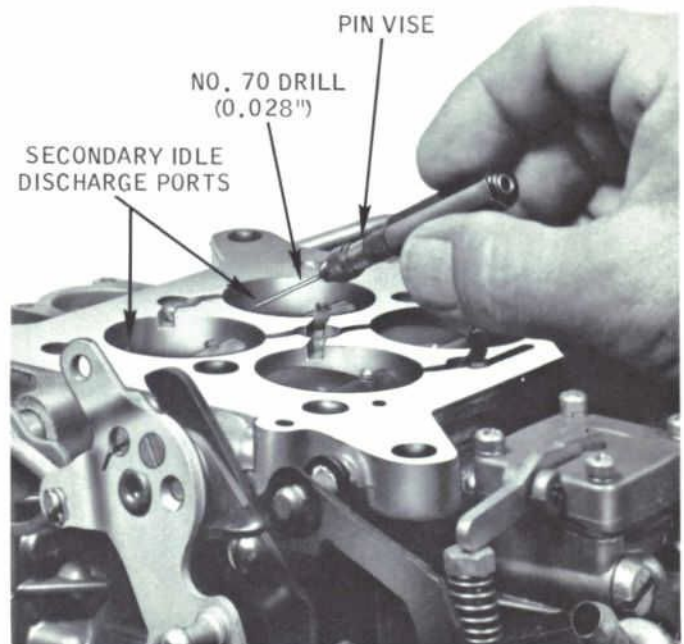

Fig. 36 — Secondary Idle Discharge Ports Enlargement — Holley 4-V Carburetor
2. Enlarge the secondary idle discharge ports with a No. 70 (0.028-inch diameter) drill in a pin vise (Fig. 36). Coat the drill bit with grease and slowly rotate the drill through the port. *Do not enlarge the ports beyond the specified drill size. After removing the drill, make sure all of the metal chips are removed.*